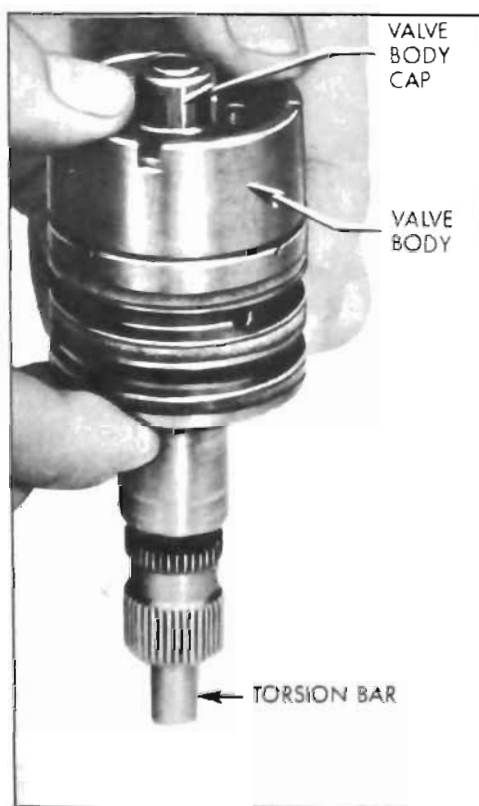

Figure 8-42—Removing Stub Shaft, Torsion Bar and Cap Assembly From Valve Body
4. Remove the stub shaft, torsion bar and cap assembly by holding the valve assembly with stub shaft downward as shown and rapping torsion bar lightly against workbench to dislodge the cap from the valve body to cap pin. See Figure 8-42. Complete the removal of the stub shaft torsion bar and cap assembly.